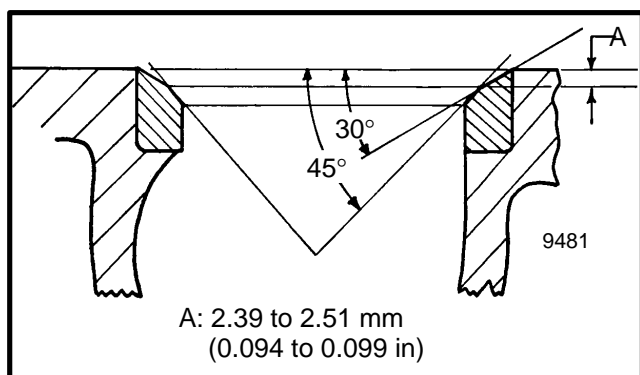

FIGURE 5. VALVE SEAT ANGLES
1. If the surface of the valve seat is not smooth, the seat must be cut or ground. The seat must ground at two angles so that the surface for the valve is not too wide. Grind the seat with the 45° stone until the surface is smooth. Use the 30° stone to make the seat narrow. See FIGURE 5.